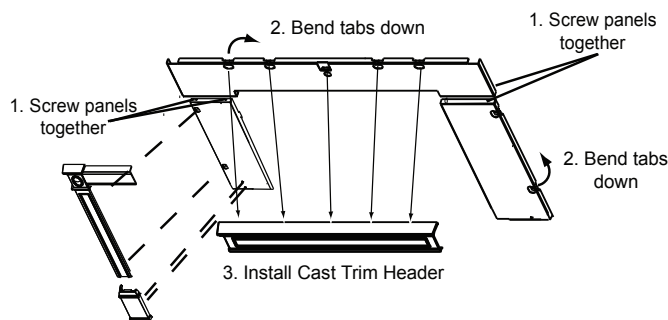

Figure 22.1
4. Now bend the tabs down toward the backside of the panel set, 5 on top and 2 on each leg. Leave the panel set face down (**Figure 22.1**).